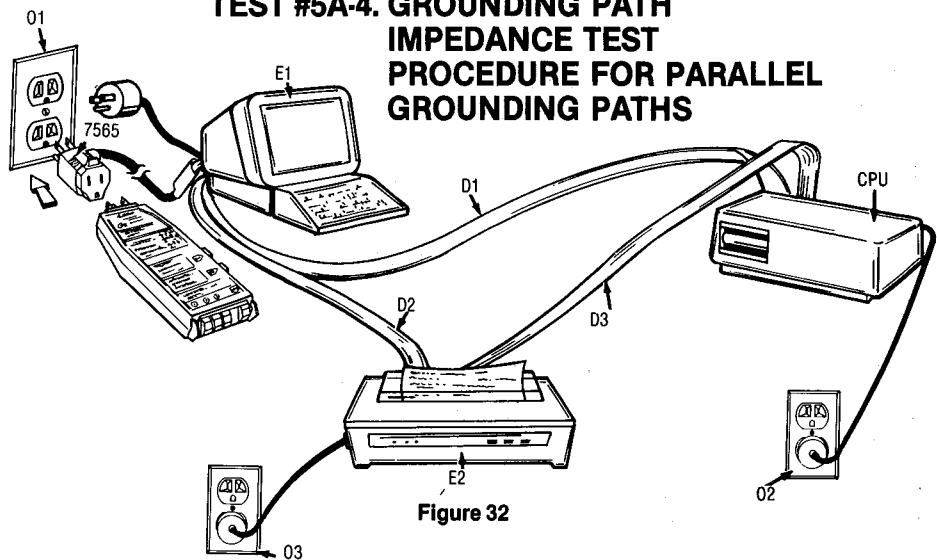

Figure 32
- Step 1. Disconnect equipment (E-1) from outlet. (See Fig. 32.)